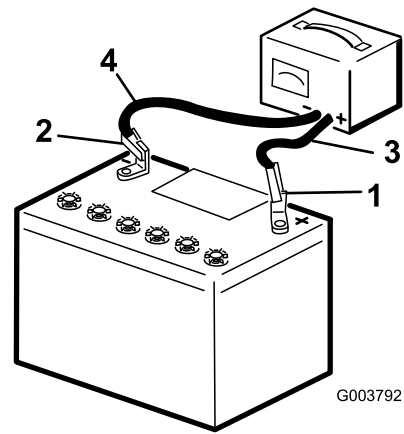

Figure 52
- When the battery is fully charged, unplug the charger from the electrical outlet, then disconnect the charger leads from the battery posts (Figure 52).
- Charge the battery for 4 to 8 hours at a rate of 3 to 4 A (Figure 52). Do not overcharge the battery.